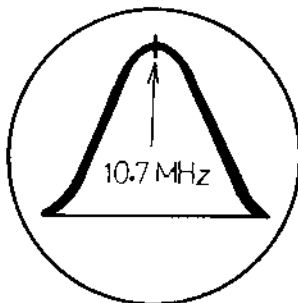

Fig. 8
FM IF & DISCRIMINATOR ALIGNMENT (Refer to Figs. 8 thru 11)
- b. Align the L11, 12 & 15 so that the maximum sensitivity and symmetrical wave mode will be obtained setting the marker 10.7MHz on the peak. (Refer to Fig. 8)